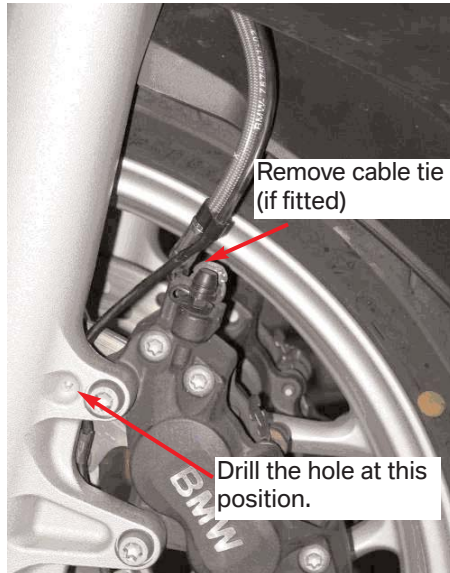

Fig. 6: Location of the new sensor cable routing of the R 1200 RT.
3. Working from the outboard side, drill a hole 4 mm in diameter through the brake-caliper mount, as shown in Fig. 6.